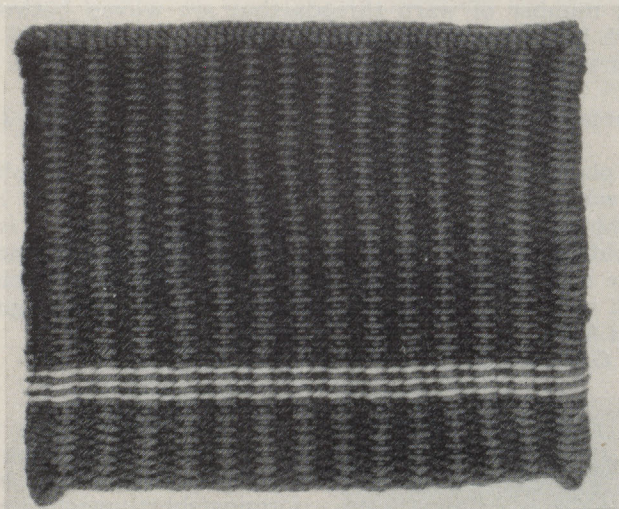

Fig. 8
5. *Four-color Combinations*—Figs. 8 and 9.
Thus far only two colors of weft threads have been used. With two sets of two colors of threads many interesting variations of upright and sloping lines and arrows can be woven. The method is simple. Weave around once with two contrasting colors. Next, start at the beginning warp thread with another pair of colored weft threads and weave around once. Then alternate with the original pair of weft threads. An example is shown as a band in the lower part of the bag in fig. 8.
6. *Dot and Dash Weave*—Fig. 8.
In planning this pattern it is essential that the number of warp threads be in multiples of four so that the 1-3 combinations can always be formed completely. It is a rapid weave and many colorful combinations can be made. The shopping bag shown in fig. 8 is composed of blue and sand with lines of a four color combination of gold and fawn.